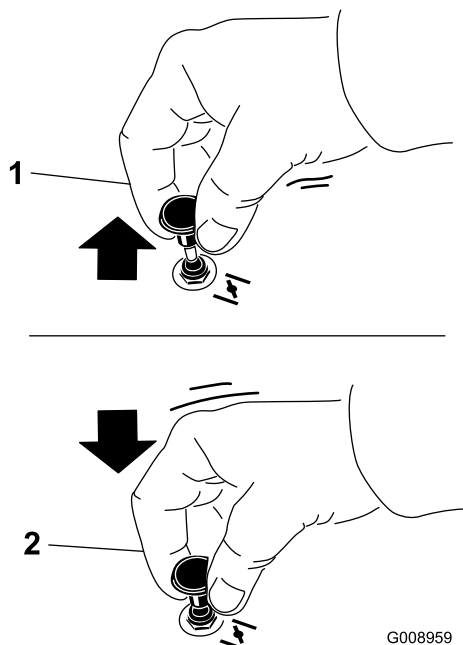

Figure 13
2. Pull up on the choke knob to engage the choke before using the ignition switch (Figure 13).
3. Push down on the choke to disengage the choke after the engine has started (Figure 13).